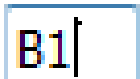

Figure 3.17 "Label of the boring log" edit box
- Double-click on the label of the boring log. The corresponding edit box to modify the label of the boring log appears, Figure 3.17
- Type B1 in the edit box of Figure 3.17